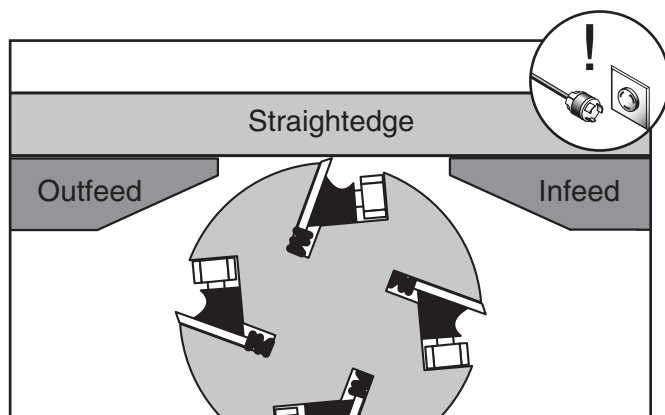

Figure 55. Infeed table even with outfeed table.
3. Use the straightedge to help adjust the infeed table exactly even with the outfeed table, as shown in **Figure 55**.